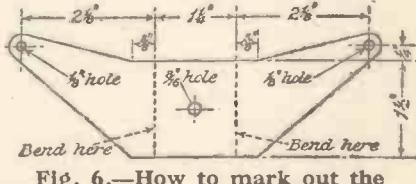

Fig. 6.—How to mark out the Cradle.
**Gun Cradle.**—For the cradle G we shall require a piece of sheet brass about  $\frac{3}{4}$  in. thick, cut to the shape given in Fig. 6. After carefully marking out the shape on the piece of metal with the aid of a scribe or fine-pointed bradawl, drill the three holes to the sizes indicated.